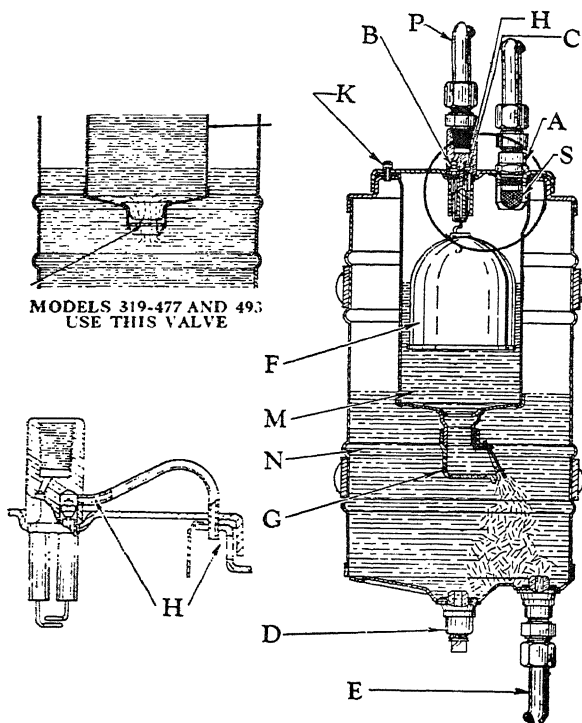

Fig. 4. Stewart-Warner No. 309 Leverless Vacuum Tank
**Stewart-Warner Leverless-Type Vacuum Tank.** The leverless type vacuum tank is constructed with two separate chambers—an inner or vacuum chamber *M* and an outer or reverse chamber *N*, as shown in Fig. 4.